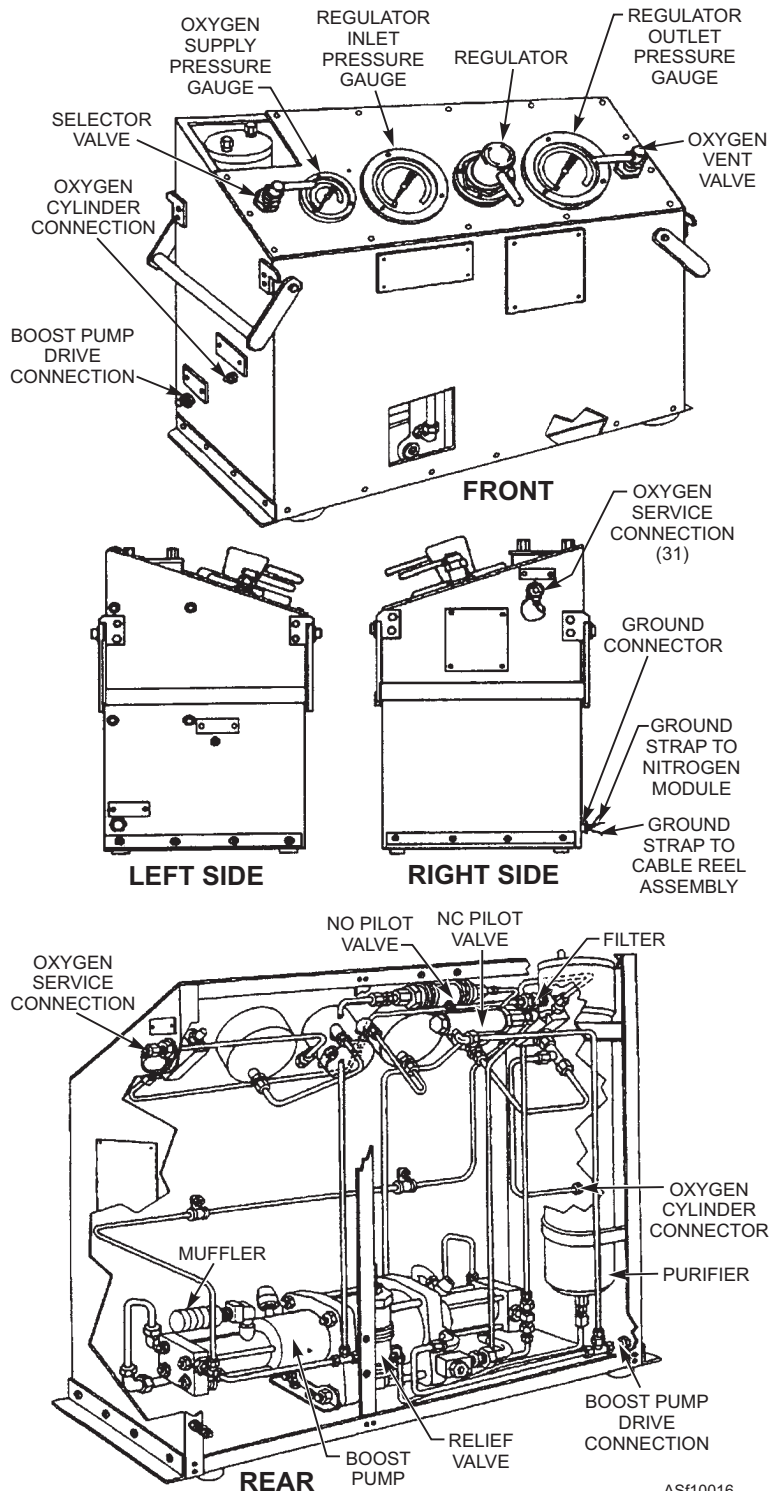
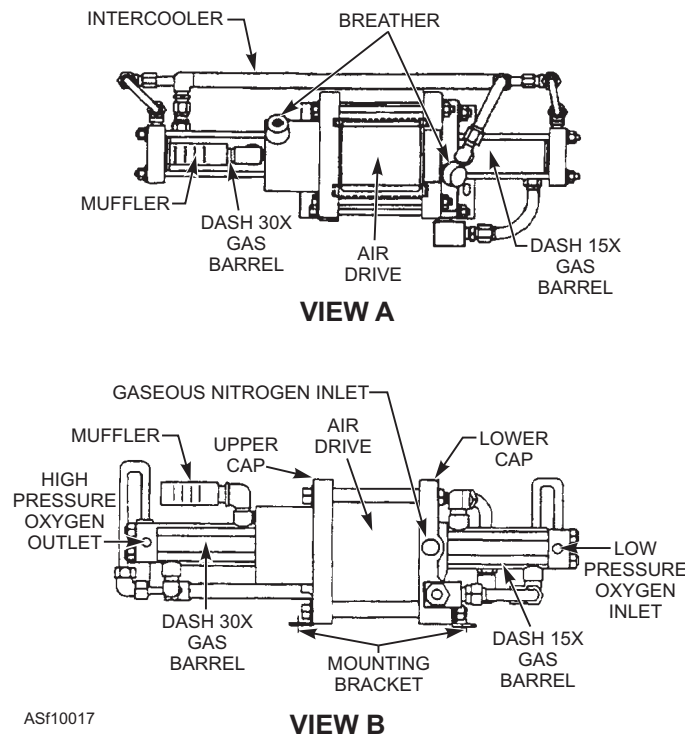

Figure 10-16.—Oxygen module.
Figure 10-17.—Oxygen boost pump.
OXYGEN MODULE.—The oxygen module, figure 10-16, transfers the oxygen from the gas storage system by equalizing pressure or by boosting oxygen
cylinder pressure with the boost pump. During aircraft oxygen servicing, the oxygen module is grounded to the nitrogen module and trailer grounding reel. The following components are contained on or within the oxygen module (refer to figure 10-16 to locate the components on the module, and to figure 10-13 to trace oxygen flow):
Oxygen Supply Pressure Gauge.—The oxygen supply pressure gauge (19) indicates the amount of pressure in the oxygen cylinder (2). The gauge is located on the left corner of the oxygen module panel. (See figure 10-16, front view.) The oxygen cylinder valve (4) must be open to read cylinder pressure.
Selector Valve.—The selector valve (20) is a three-position (OFF/BOOST/BYPASS), hand-operated valve that controls oxygen flow to the boost pump (21), or it allows the oxygen to bypass the boost pump. It also provides a means of shutting off the oxygen supply to the servicing system. The selector valve is located on the left side of the oxygen module panel. (See figure 10-16, front view.)
a large area reciprocating air drive piston directly coupled by a connecting rod to a small area gas piston. The gas piston operates in a high-pressure gas barrel section. Each gas barrel end cap contains high-pressure inlet and outlet check valves. (The boost pump serves the same purpose as the pump and motor assembly on the nitrogen servicing unit covered in chapter 9. The internal design and operation of the oxygen boost pump are quite similar to those of the nitrogen servicing unit's pump and motor assembly.) Figure 10-17 shows various features of the boost pump. The boost pump is physically located inside the oxygen module. (See figure 10-16, rear view.)
Pilot Valves.—Two boost pump pressure-operated pilot valves (23) and (24), are located within the oxygen module. (See figure 10-16, rear view.) The pressure operated pilot valve (23) is a normally closed (NC) oxygen module safety device, which prevents the boost pump (21) from operating with a high compression ratio (in excess of 25:1). When the gaseous oxygen supply to the boost pump (21) inlet port falls below 200 psi, the pilot valve (23) closes, shutting off the boost pump drive (nitrogen or compressed air). The pilot valve (23) opens when the oxygen supply pressure to the boost pump (20) exceeds 300 psi.
Relief Valve.—The relief valve (25) vents excess pressure if the boost pump (21) outlet pressure exceeds 2,900 psi. It is located inside the oxygen module. (See figure 10-16, rear view.)
Purifier.—The purifier (26), located inside the oxygen module (figure 10-16, rear view), removes moisture and other contaminant from the oxygen entering the servicing line. The purifier assembly is identical in appearance to the purifier used on the nitrogen servicing unit; however, it is not interchangeable. Always use only the item (part number) specified in the maintenance manual.
Filter.—The filter (27) traps foreign matter not removed by the purifier. It is a 10-micron, replaceable element filter located underneath the panel of the oxygen module. (See figure 10-16, rear view.)
Oxygen Vent Valve.—The oxygen vent valve (28) provides a means of venting gas pressure upstream of the regulator (30). It is a two-position (OFF/VENT) valve located on the upper right corner of the oxygen module control panel. (See figure 10-16, front view.)
Regulator Inlet Pressure Gauge.—The regulator inlet pressure gauge (29) displays the pressure at the inlet side of the oxygen regulator. It is located to the right of the oxygen supply pressure gauge on the oxygen module control panel. (See figure 10-16, front view.)
Pressure Regulator.—The pressure regulator (30) controls the pressure of the gas delivered to the servicing line. It is located to the right of the regulator inlet pressure gauge on the oxygen module control panel. (See figure 10-16, front view.)
Regulator Outlet Pressure Gauge.—The regulator outlet pressure gauge (31) displays the pressure at the outlet side of the oxygen regulator. It is located to the right of the pressure regulator on the oxygen module control panel. (See figure 10-16, front view.)
Oxygen Service Connection.—Located on the right side of the oxygen module, the oxygen service connection (32) provides a means of attaching a servicing hose to the servicing unit. (See figure 10-16, right side view.)
4. Attach the servicing hose and valve with the appropriate servicing adapter (figure 10-18) to the oxygen service connection on the oxygen module. (See figure 10-16, right side view.)